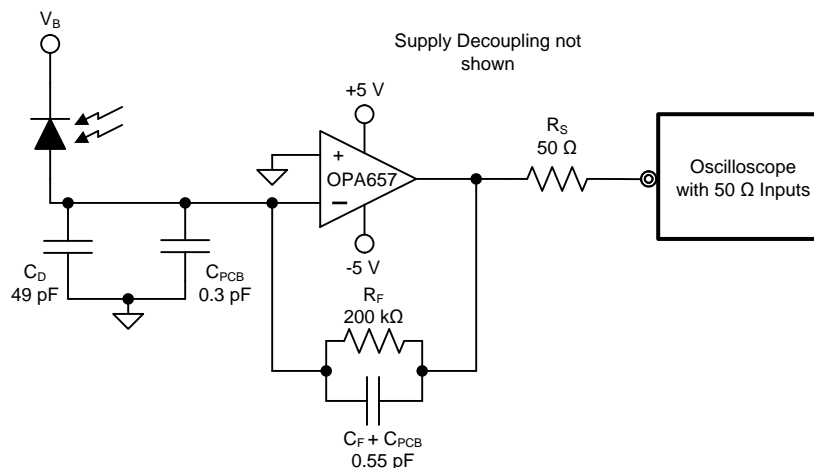

Figure 34. Wideband, High-Sensitivity, Transimpedance Amplifier Diagram
this term only begins to be a significant term versus the input offset voltage for source impedances greater than 750 k $\Omega$ . This would also be the feedback resistor value for transimpedance applications (see Figure 34) where the output DC error due to inverting input bias current is on the order of that contributed by the input offset voltage. In general, except for these extremely high-impedance values, the output DC errors due to the input bias current may be neglected.
As an example, compute the worst-case output DC error for the transimpedance circuit of Figure 34 at 25°C and then the shift over the 0°C to 70°C range given the following assumptions.
Designs that require high bandwidth from a large area detector with relatively high transimpedance gain benefit from the low input voltage noise of the OPA657. This input voltage noise is peaked up over frequency by the diode source capacitance, and can, in many cases, become the limiting factor to input sensitivity. The key elements to the design are the expected diode capacitance ( $C_D$ ) with the reverse bias voltage ( $V_B$ ) applied, the desired transimpedance gain,  $R_F$ , and the GBP for the OPA657 (1600 MHz). Figure 34 shows a transimpedance circuit with the parameters as described in Table 1. With these three variables set (and including the parasitic input capacitance for the OPA657 and the PCB added to  $C_D$ ), the feedback capacitor value ( $C_F$ ) may be set to control the frequency response. To achieve a maximally-flat second-order Butterworth frequency response, the feedback pole should be set to:
Adding the common-mode and differential mode input capacitance (0.7 + 4.5) pF and the trace PCB capacitance of approximately 0.3 pF to the 49-pF diode source capacitance of Figure 34, and targeting a 200-kΩ transimpedance gain using the 1600-MHz GBP for the OPA657 requires a feedback pole set to 3.5 MHz. This requires a total feedback capacitance of 0.2 pF. Such low capacitance values are difficult to achieve due to parasitics from the PCB and the surface mount components.
Equation 8 gives the approximate closed loop bandwidth of the system to be 4.8 MHz. Because the target bandwidth is only 1 MHz, the feedback capacitance can be increased to a more practical value while maintaining the bandwidth requirements of the design. A feedback capacitance of 0.550 pf was chosen. This includes the physical 0.4-pF feedback capacitor in addition to the 0.1-pF parasitic capacitance from the feedback resistor and around 50-fF capacitance from the PCB traces. Removing the ground and power planes from under the surface mount components helps to minimize this parasitic capacitance. The simulated closed loop bandwidth of Figure 34 was 1.7 MHz. The phase margin was close to 82°. This design should result in a system with negligible overshoot to a pulsed input.
3. **Careful selection and placement of external components preserve the high-frequency performance of the OPA657.** Resistors should be a very low reactance type. Surface-mount resistors work best and allow a tighter overall layout. Metal film and carbon composition axially leaded resistors can also provide good high-frequency performance. Again, keep the leads and PCB trace length as short as possible. Never use wirewound-type resistors in a high-frequency application. Because the output pin and inverting input pin are the most sensitive to parasitic capacitance, always position the feedback and series output resistor, if any, as close as possible to the output pin. Other network components, such as noninverting input termination resistors, should also be placed close to the package. Where double-side component mounting is allowed, place the feedback resistor directly under the package on the other side of the board between the output and inverting input pins. Even with a low parasitic capacitance shunting the external resistors, excessively high resistor values can create significant time constants that can degrade performance. Good axial metal film or surface-mount resistors have approximately 0.2 pF in shunt with the resistor. For resistor values greater than 1.5 k $\Omega$ , this parasitic capacitance can add a pole and/or zero below 500 MHz that can effect circuit operation. Keep resistor values as low as possible consistent with load driving considerations. It has been suggested here that a good starting point for design would be to keep  $R_F \parallel R_G < 150 \Omega$  for voltage amplifier applications. Doing this automatically keeps the resistor noise terms low, and minimizes the effect of the parasitic capacitance. Transimpedance applications (see Figure 34) can use whatever feedback resistor is required by the application as long as the feedback-compensation capacitor is set considering all parasitic capacitance terms on the inverting node.